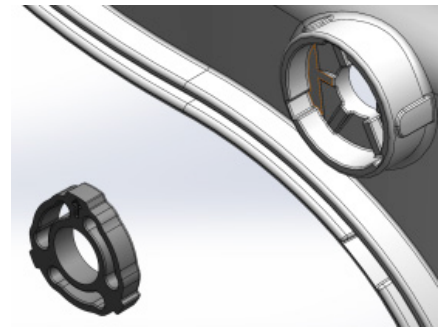

Figure 1
6. Install new Cams into the Helmet Hinge area. Note: Each Cam has an arrow molded into the Cam. Arrow should be facing outward from Helmet and pointing up when installed. See Figure 1.